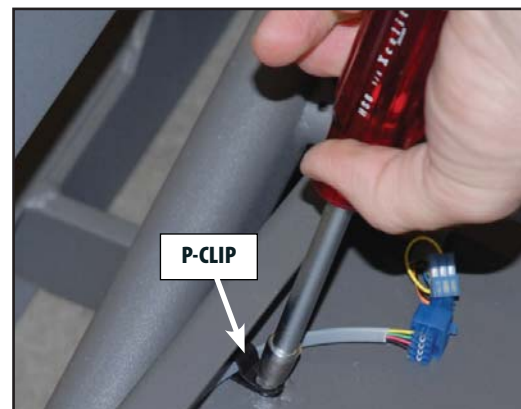

FIGURE 6.38
4. Using an 7 mm Combination Wrench, remove the Nuts securing the two P-Clips that hold the Harness to the center frame of the table. One of the P-Clips is located in the center Frame and the second is on the side of the casing for the Controller. Refer to **Figure 6.38**.